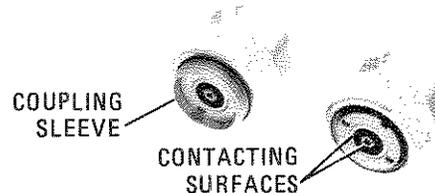

Figure 2-1. Use and Care of APC-7 Connectors
3. The device under test is connected to the Bridge test port. Typical measurement configurations are shown in Section III. If the Bridge is an 85021A, refer to Figure 2-1 for instructions on APC-7 connectors. Read the instructions on this figure before attempting to use APC-7 connectors.
2-11. The mating connector for an APC-7 connector is another APC-7 connector (see Figure 2-1). The mating connector for a precision type-N connector is a corresponding precision type-N connector whose dimensions conform to U.S. specification MIL-C-39012. The mating connector for a precision APC-3.5 female connector is a precision APC-3.5 male connector. An SMA male connector can be used, although this connection will exhibit a discontinuity with a SWR of about 1.10.